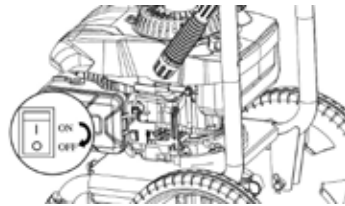

Fig. 13
**Stopping Pressure Washer (See Fig 13)**